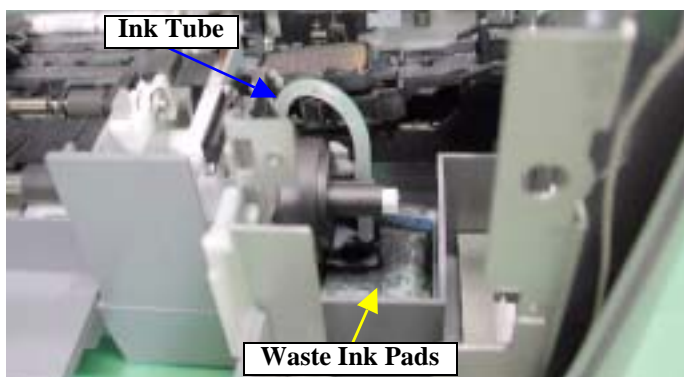

Figure 4-22. Specified Position of the Ink Tube
- Fit the Ink Tube in the correct position of the Waste Ink Pads. Refer to Figure 4-22, "Specified Position of the Ink Tube".